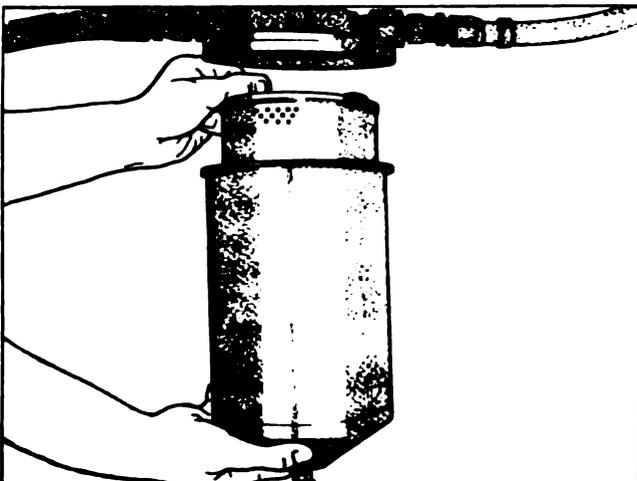

Fig. 2-20,(OM1021L). Installing replaceable fuel filter element
2. Loosen the nut(s) at the top of the fuel filter(s). Take out the dirty element, clean the filter case(s) and install new element(s). Fig. 2-20.